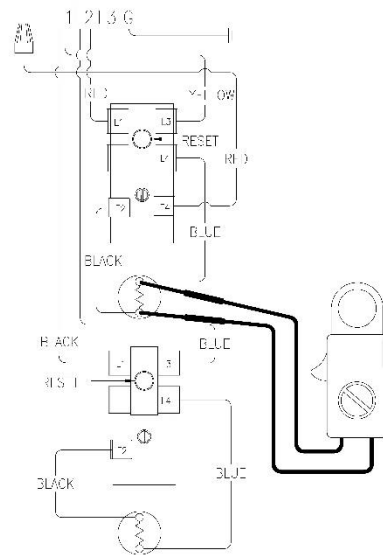

Figure 25
6. Check across upper element terminals (see Figure 25).